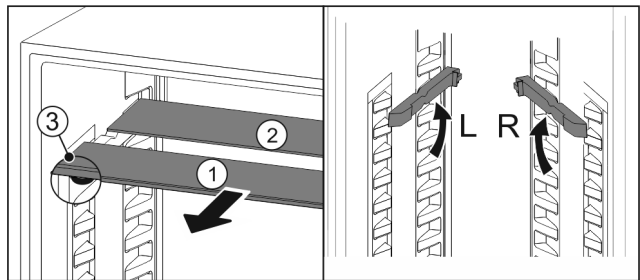

Fig. 194
- ▶ Pull the glass panels out Fig. 194 (1) from the front, one at a time.
- ▶ The glass panel Fig. 194 (1) and trim strip are at the front.
- ▶ The stops Fig. 194 (3) point down.